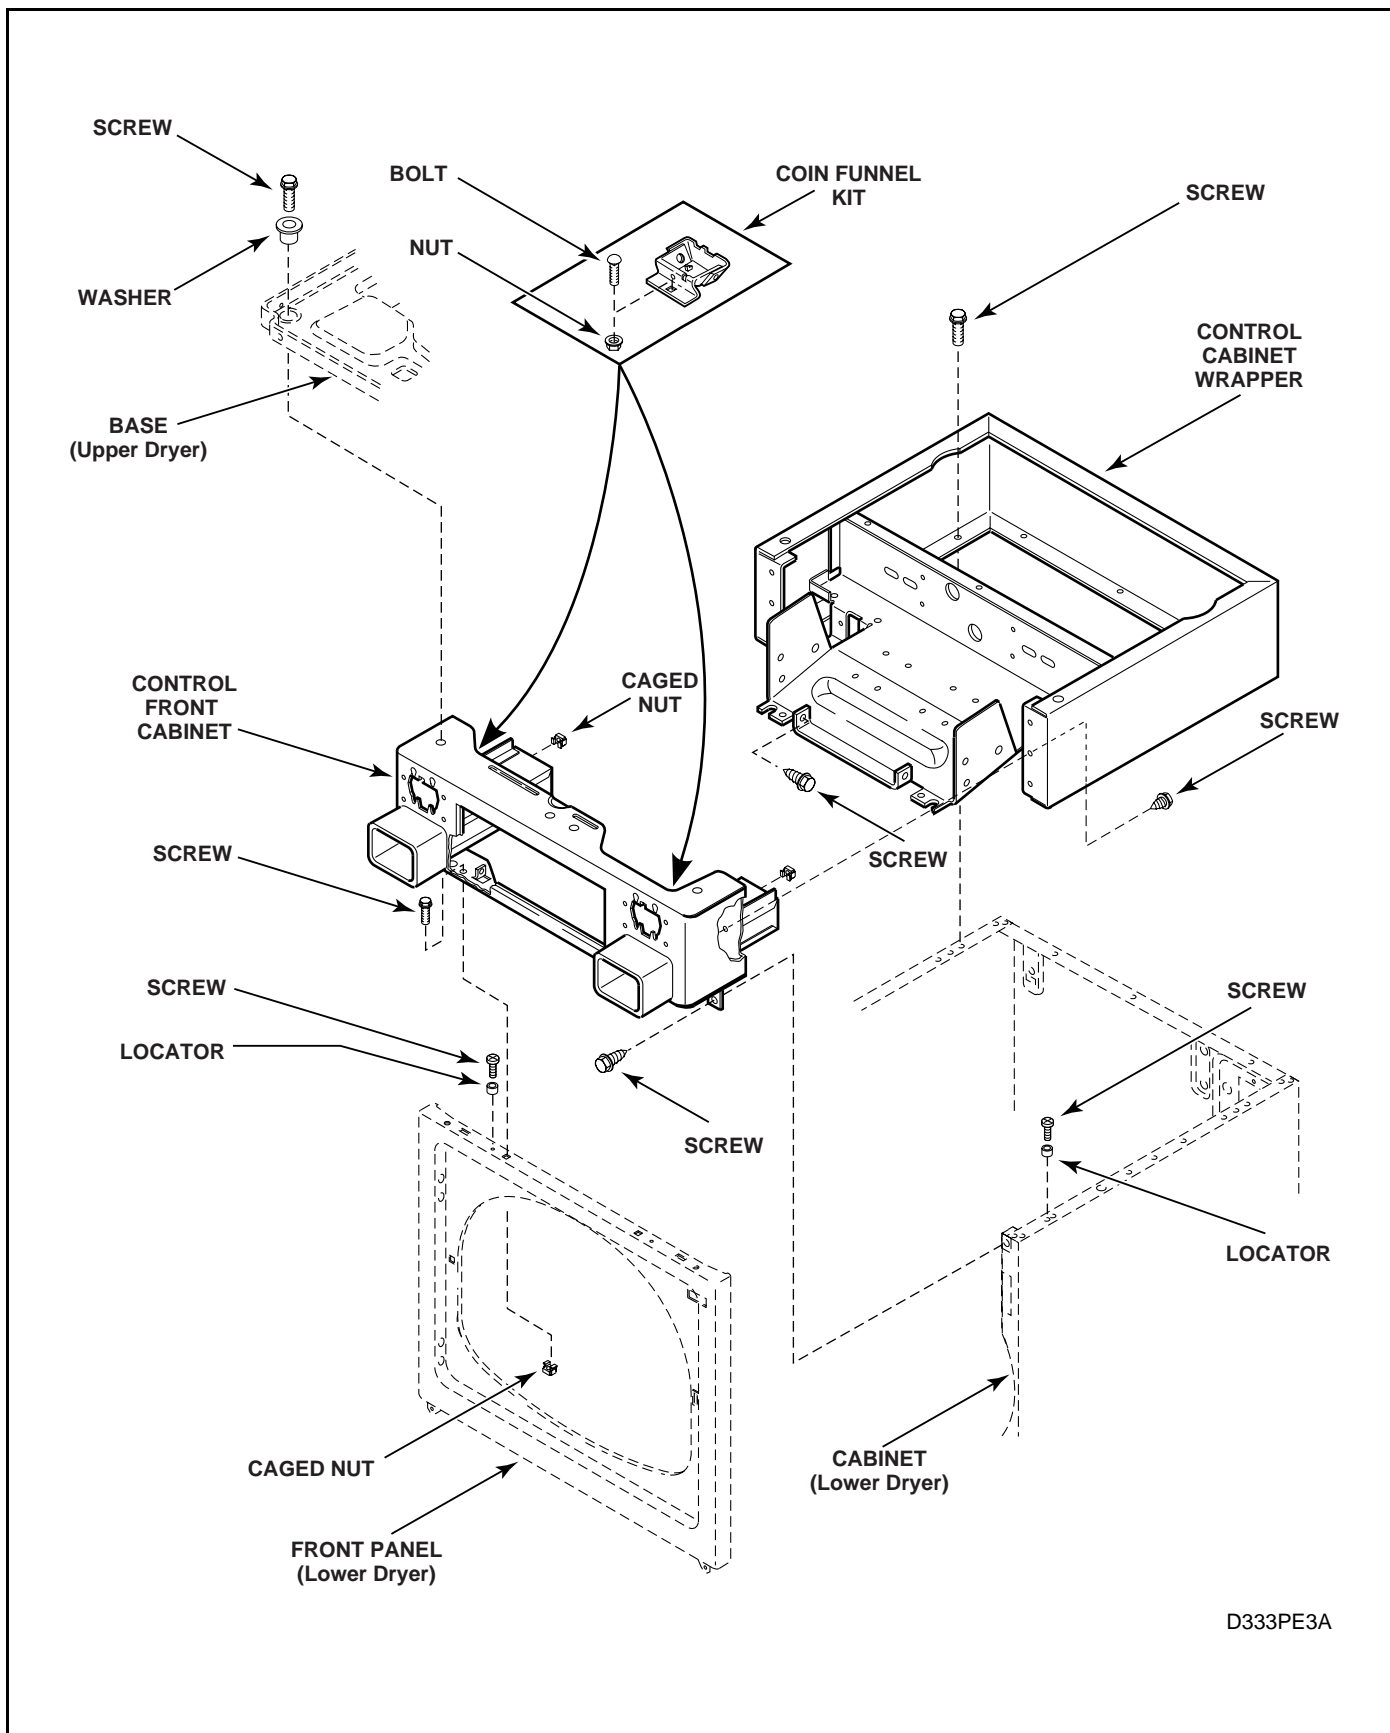

Figure 10
- h. Remove two screws holding bottom tabs on front panel to lower dryer cabinet. See *Figures 10 through 13*.
- k. Remove two screws holding bottom tabs on control cabinet to front flange of lower dryer cabinet. See *Figures 10 through 13*.
- l. Remove two screws and shoulder washers holding the upper dryer base to the top side of the control cabinet. See *Figures 10 through 13*.
- m. Reach in through front opening of control cabinet and remove two screws (per side) holding the control cabinet front to the front flange of the control cabinet wrapper. See *Figures 10 through 13*.
- o. Reach through control panel opening and remove two screws holding the control cabinet wrapper tabs to the control cabinet front tabs. See *Figures 10 through 13*.
- p. Carefully pull control cabinet front straight out from between the upper and lower dryers. See *Figures 10 through 13*.